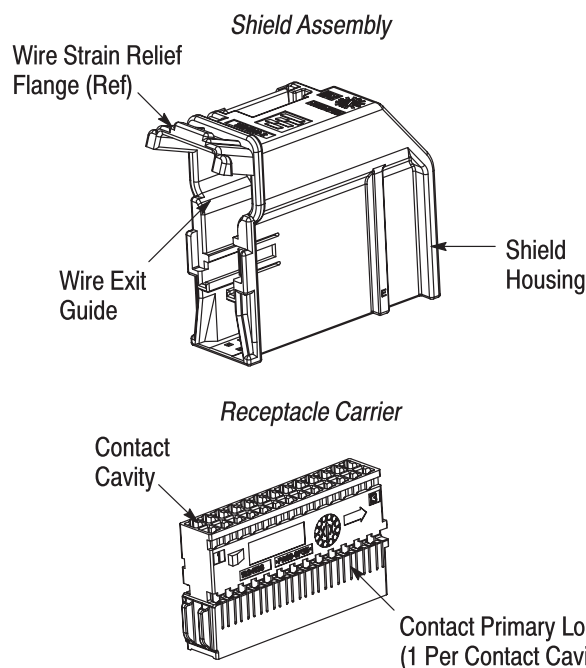

Figure 1
Each connector consists of a shield assembly and one or more receptacle carriers. See Figure 1. The connector is keyed with a color coding to match the correct interface and ensure proper connector orientation.
1. For connectors with multiple receptacle carriers, slide the receptacle carriers together. Refer to Figure 1.